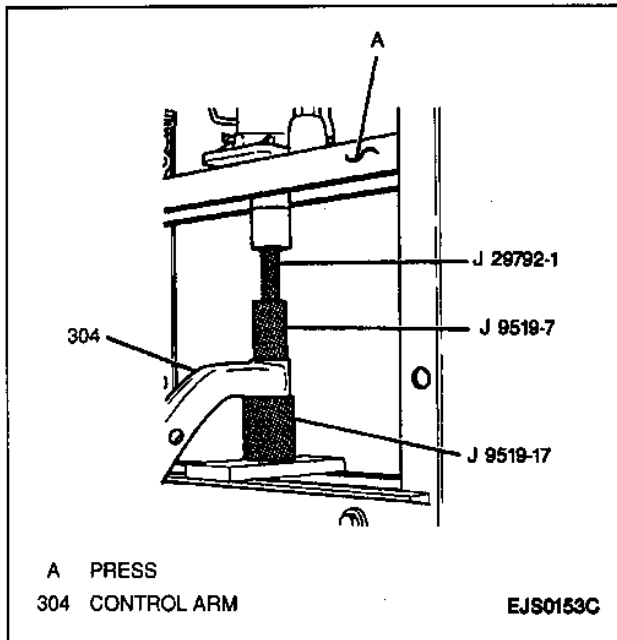

Figure 15—Removing Control Arm Bushing—Long Branch
3. Using a J 29792-1, a J 9519-7, a J 9519-17 and a press, remove the bushing from the long branch of the control arm (Figure 15).